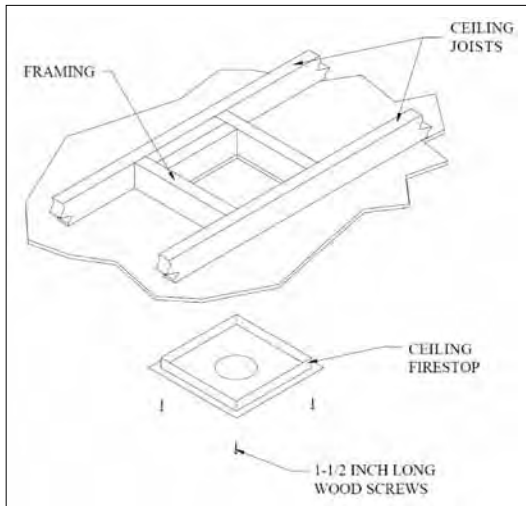
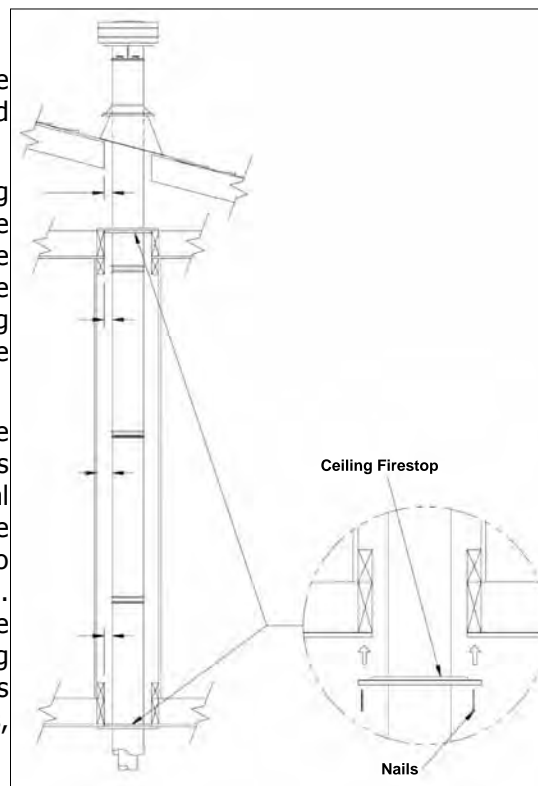

Figure 40: Installation of Ceiling Firestop.
Figure 43: Installation of Ceiling Fire Stops.
Step 3. To install the Ceiling Firestop in a flat ceiling, cut a square hole in the ceiling 11"x11" (280x280mm) square for 8" x 5" pipe, centered on the hole drilled in Step 2. Frame the hole as shown in Figure 40.
- (1) For multi-story vertical installations, a Ceiling Firestop is required at any subsequent floors (as shown in Figure 43). The opening should be cut and framed in the same manner as the opening in Step 3 (see Figure 40).
- (2) Any occupied areas above the first floor, including closets and storage spaces, which the vertical vent passes through, must be enclosed. The enclosure may be framed and sheet rocked with standard construction materials,